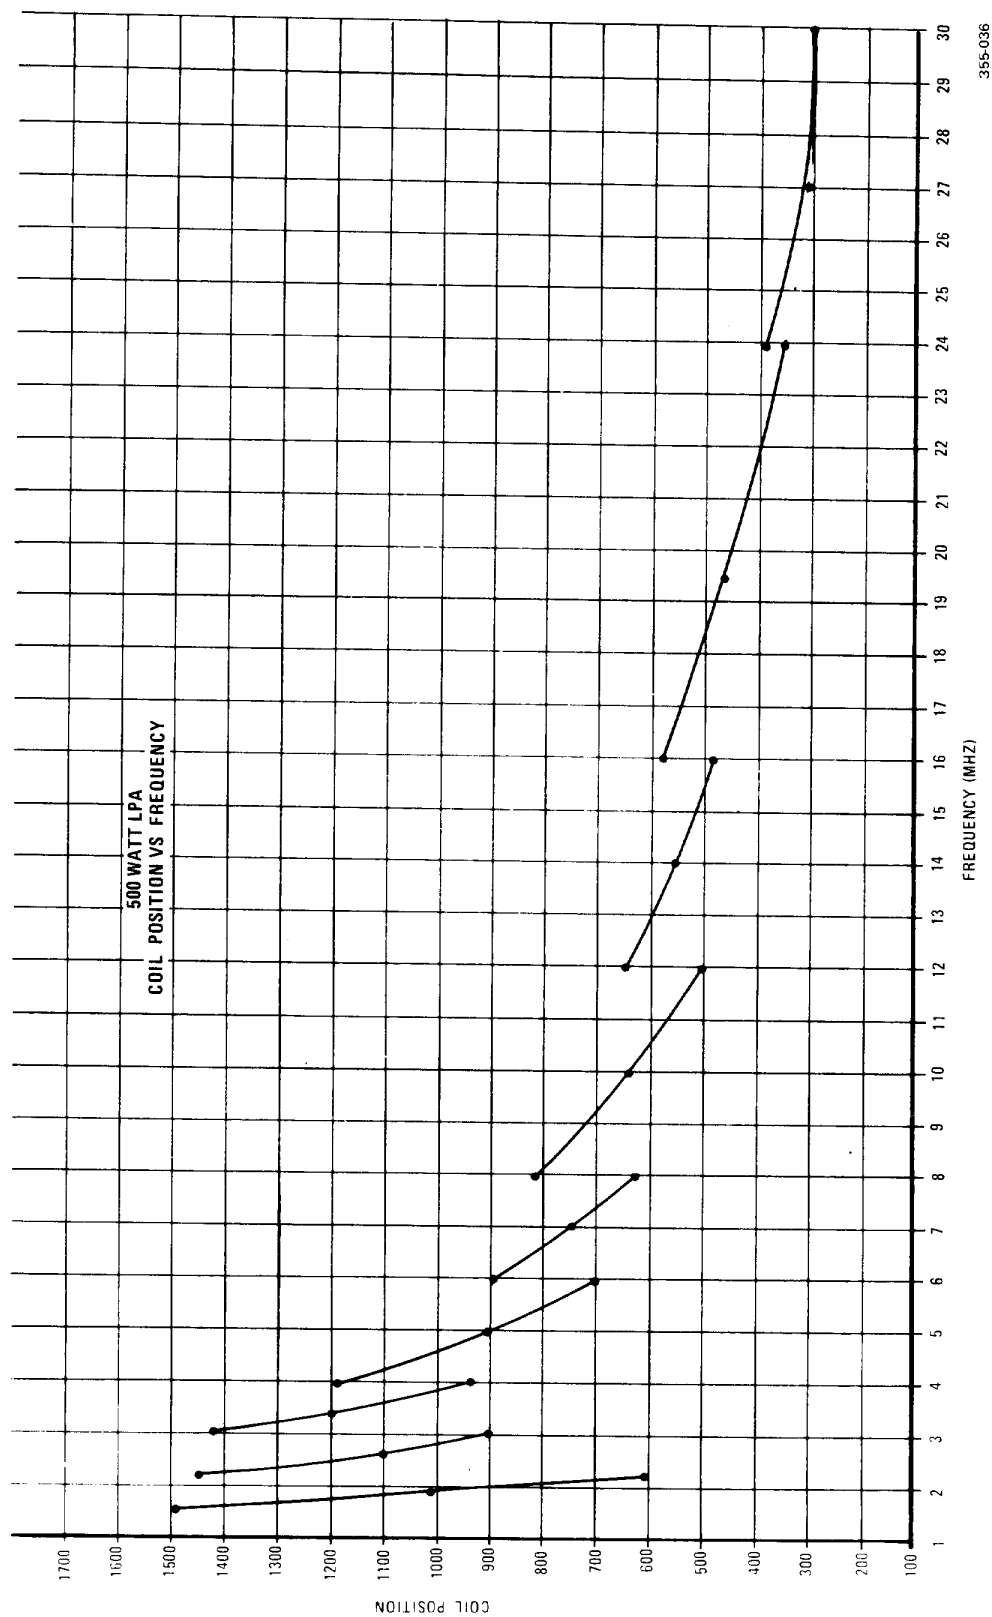

Figure 3-1. Manual Tune Chart
- d. Using the spring-loaded TUNE control, preposition the coil to the value indicated on the Manual Tune Chart, Figure 3-1, for the frequency selected on the 100 Watt Transceiver. Move the TUNE control toward MIN L or MAX L until the the number on the LCD display matches the number on the chart.